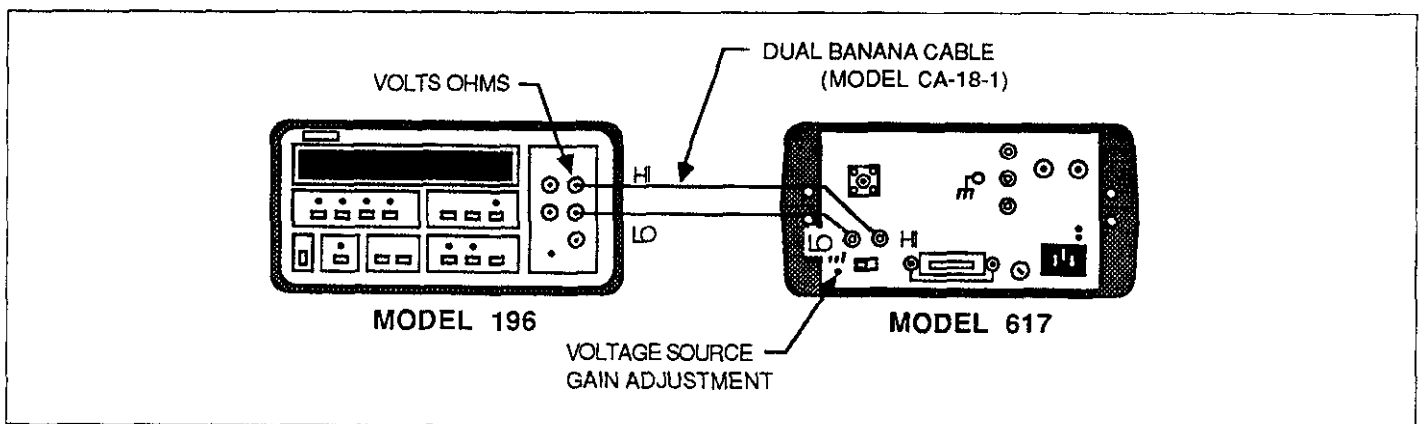

Figure 8. Connections for Model 617 Voltage Source Calibration
1. Connect the Model 196 DMM to the voltage source output as shown in Figure 8.
7. Adjust the voltage source gain adjustment (see Figure 8) so that the DMM reads a voltage of $100V \pm 10mV$.
1. Connect the Model 263 to the Model 617 as shown in Figure 8. Note that Model 263 COMMON must be connected to Model 617 COMMON.